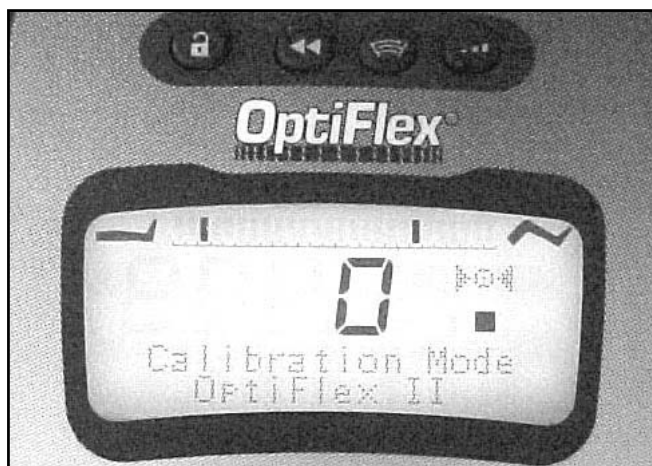

FIGURE 8.1
5. Release the "Comfort Zone" button. "Calibration Mode OptiFlex II" should be displayed at the bottom of the Pendant display window. See Figure 8.1.